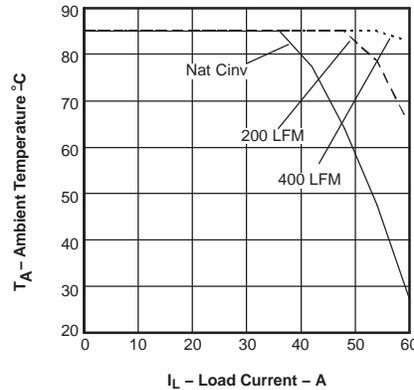

Figure 4. Safe Operating Area
- (2) SOA curves represent the conditions at which internal components are at or below the manufacturer's maximum operating temperatures. Derating limits apply to modules soldered directly to a 4 inches x 4 inches double-sided PCB with 1 oz. copper. Applies to Figure 4.